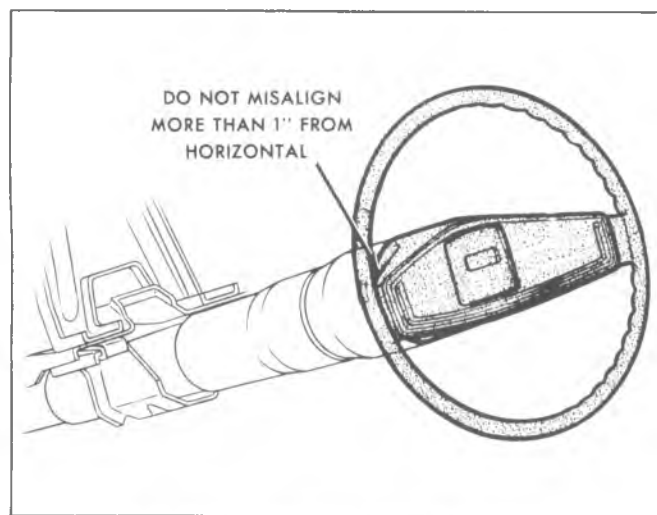

Fig. 3B4-17--Steering Wheel Alignment
2. Applying 50 lb. force to the steering wheel end of the steering shaft, adjust clamp to obtain clearances indicated in Figure 3B4-18.